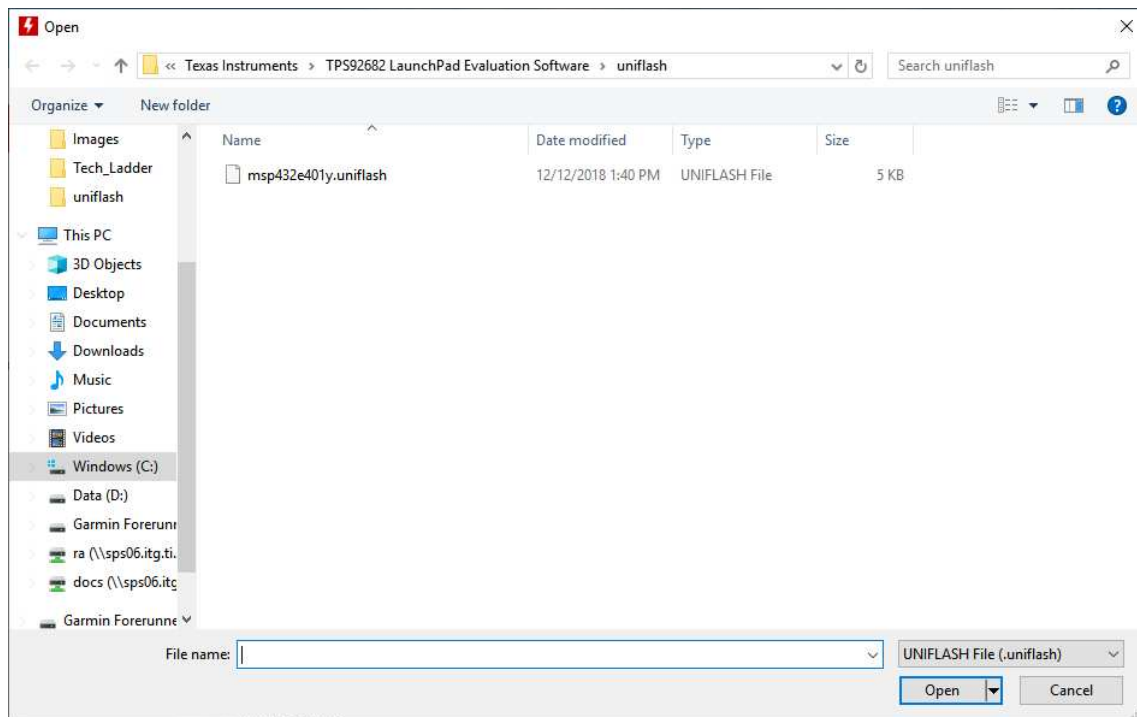

Figure 34. UniFlash Programming, Step 2
3. Navigate to "*:\Texas Instruments\TPS92682 LaunchPad Evaluation Software\uniflash*", as shown in Figure 34,